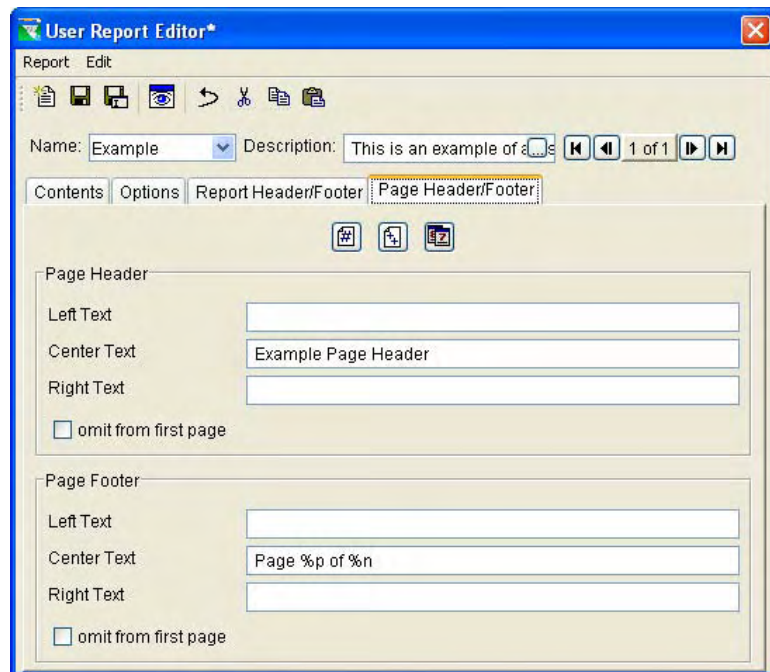

Figure 14.47 User Report Editor – Page Header/Footer Tab
7. Select the **Page Header/Footer** tab in the **User Report Editor** in order to add a header and footer to the page of your report, if desired (Figure 14.47).